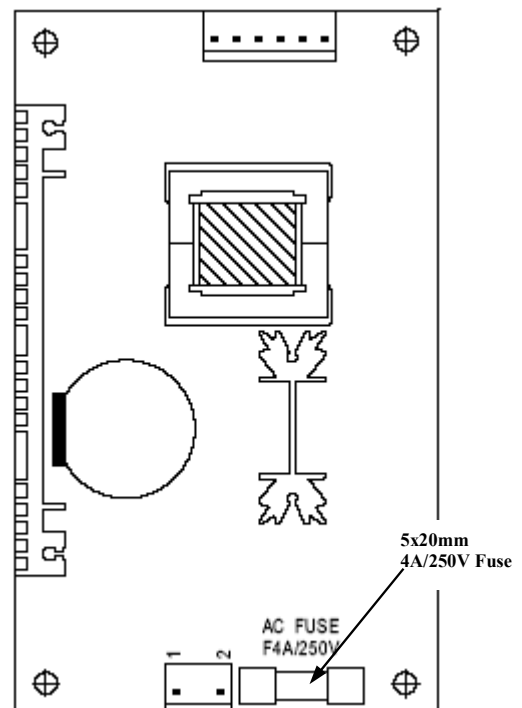

Figure 16 - Power Supply Fuse Location
- 3) Using a non-conducting fuse puller, remove the old fuse (see Figure 16).